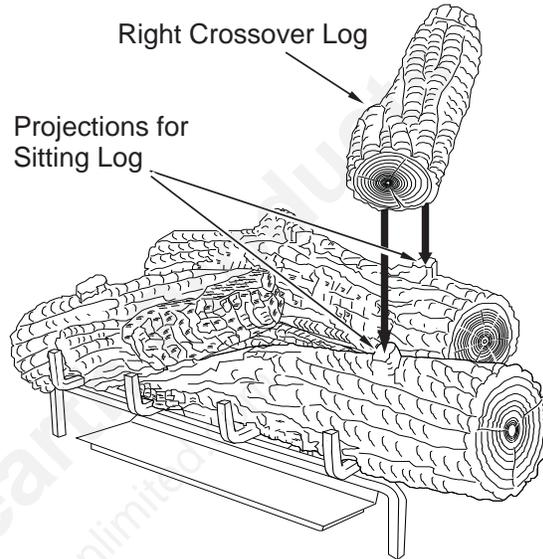

Figure 37 - Installing Right Crossover Log
- Place the right crossover log onto the rear log and the right front log as shown in **Figure 37**. The right crossover log has notches in the bottom that will line up with the projections on the rear log and the right front log.